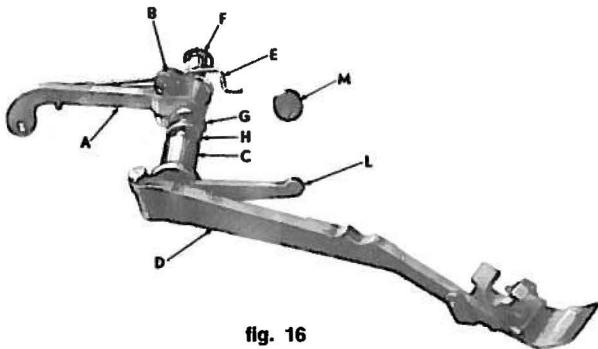

fig. 16
### e) Positioning of presserfoot arm (fig. 16)
- Press down on lever B (fig. 20) and swing out presserfoot holder D (fig. 16).
- Loosen slightly screw B (fig. 16) to release spring pressure on lifter lever arm A (fig. 16).
- Loosen screw in stop M (fig. 16).
### e) Stitch length adjustment (fig. 16)